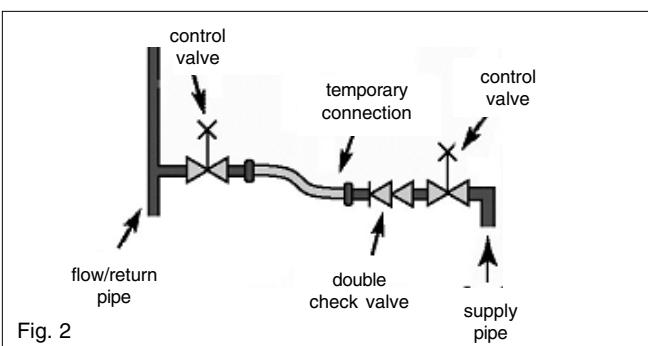

Fig. 2
### 3.1 HOW TO TOP-UP THE SYSTEM PRESSURE (fig. 2 & 3)
- Locate the filling valve connections (usually beneath the boiler, see fig. 2).